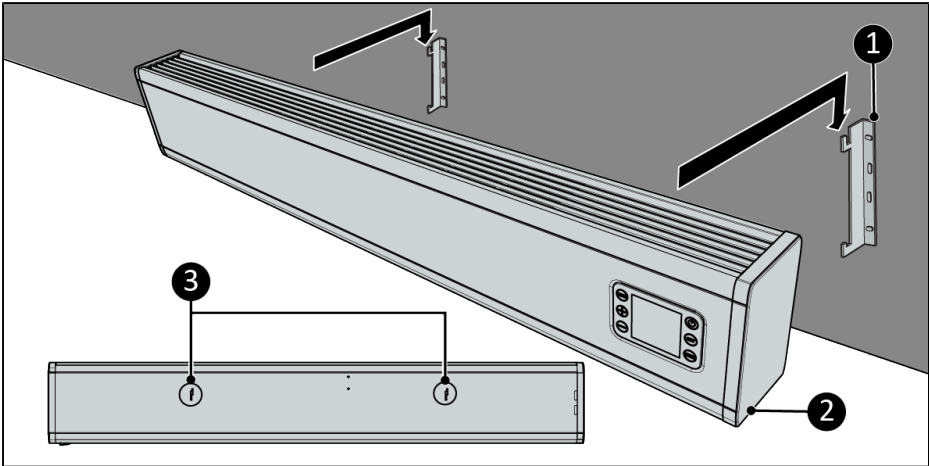

Figure 27.
7. Place the bracket holes (Figure 27, pos. 3) over the wall brackets (Figure 27, pos. 1).
8. Let the device (Figure 27, pos. 2) drop into the openings of the wall brackets (Figure 27, pos. 1).